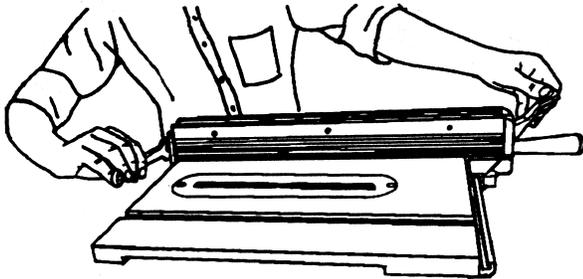

Fig. 11
a. **If too tight**, raise the handle, then use a 1/2" wrench to loosen the special hex nut (3). Continue loosening this nut until the rear clamp lever can be locked firmly. See Fig. 11.
b. **If too loose**, raise the handle, then use a 1/2" wrench to tighten the special hex nut (3). Continue tightening this nut until the rear clamp lever can be locked firmly. See Fig. 11.